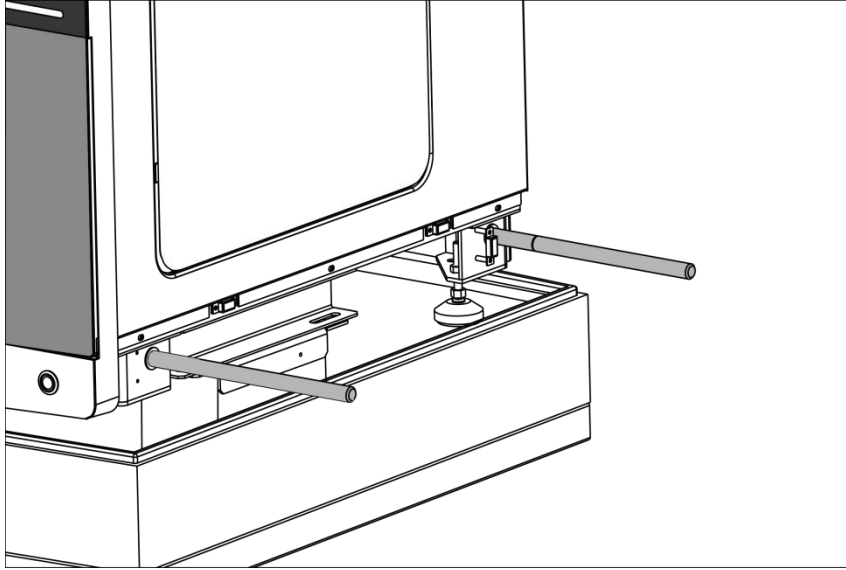

Figure 2-2c. Transport Handles Application
**3rd Step:** Install four transport handles in each slot beside every supporting foot, as shown in figure 2-2c. With persons' cooperation, please together lift the instrument out of the package with hands holding the handles and instrument body and transport to the predetermined location for installation.